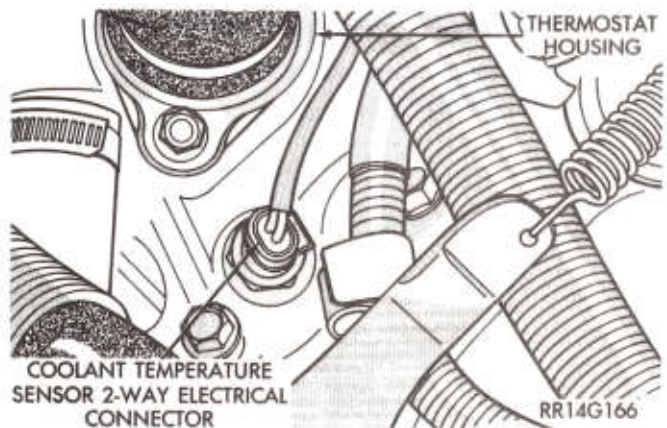

Fig. 19—Coolant Temperature Sensor
(29) Verify that 2-way connector is attached to Coolant Temperature Sensor (Fig. 19).